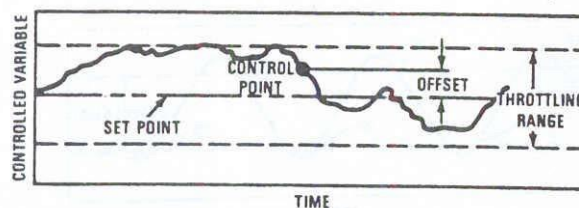

Figure 10-3: Proportional control action involves more complex switching circuits.
3. **Proportional or modulating control action** (Figure 10-3) is achieved by using a potentiometer to vary the position of the controlled device in proportion to the temperature, pressure or flow variations felt by the sensing element. A potentiometer is nothing more than an adjustable three-wire variable resistor. The *throttling range* (usually adjustable) is the maximum change in the controlled variable which will cause the controller to move the wiper and (third wire contact on resistor) through its complete stroke from one end of the potentiometer's resistance element to the other. *Control point* is the actual value of the media being controlled and will vary within the throttling range according to the demand on the system. The set-point (usually adjustable) represents the desired value of the controlled media. The *offset* (droop, deviation, drift, slippage) is the difference between the control point and the set-point when system conditions are stabilized.